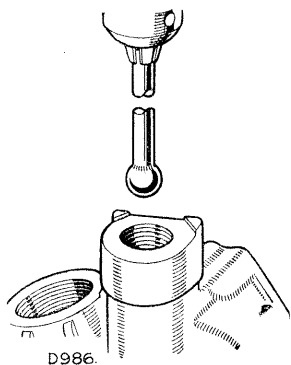

Fig. AO-5—Oil pump ball valve lapping tool
10. Solder a new ball bearing (Part No. 01035) on to the end of a suitable length of tubing, as shown in Fig. AO-5.